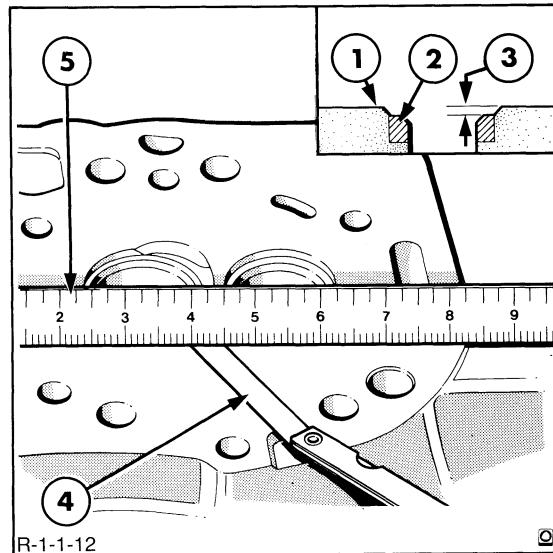

Figure 12
NOTE: If the cylinder head exceeds the flatness specification it may be skimmed providing the depth from the lower face of the valve insert to the cylinder head face is not less than 0.064 in. (1.63 mm), see the inset of Figure 12.
5. Using a seat cutter with the correct angle (refer to Figure 12 and "Specifications," Chapter 3) remove only enough stock from the seat to clean up the pits and grooves, or to correct the seat eccentricity. After refacing, the seat width must be within the specified limit.